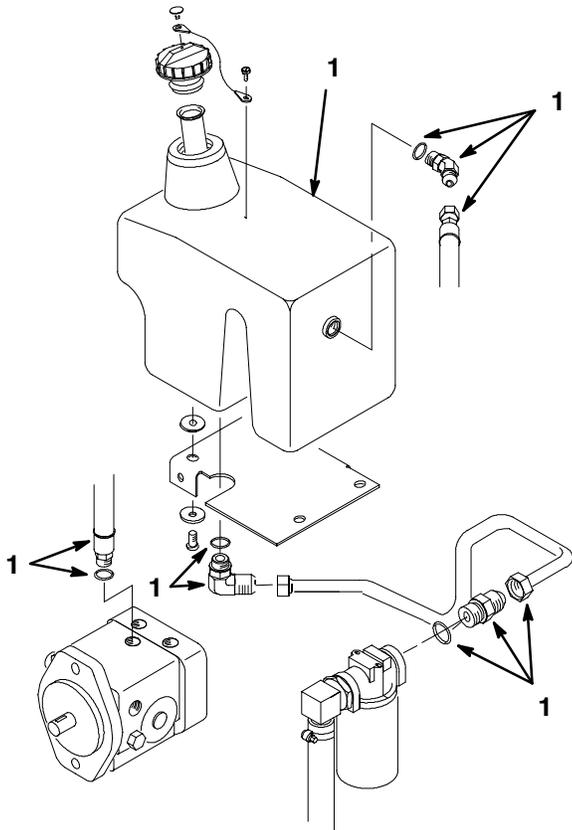

Figure 2
3. Remove fasteners securing hydraulic tank to frame and remove tank. Discard tank but retain mounting fasteners (Fig. 1 & Fig. 2).